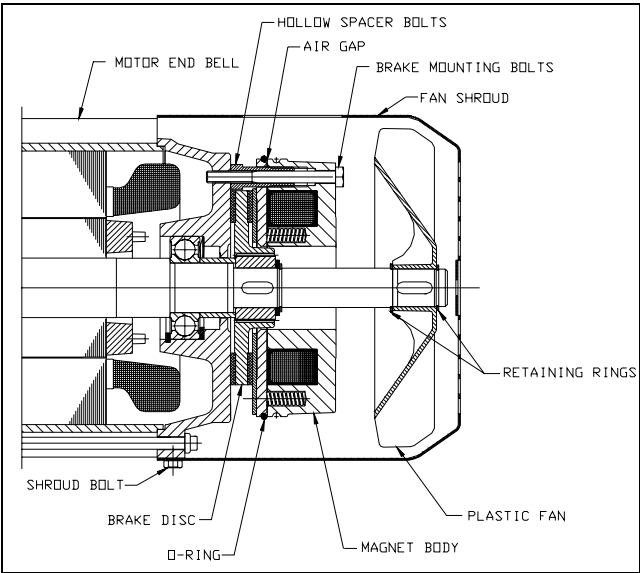

Figure 5-9. Motor Brake.
- (3) Remove the four (4) bolts attaching the fan shroud to the motor and remove the fan shroud. See Figure 5-9.
- (4) Carefully roll the large O-ring from the groove over the air gap back toward the magnet body. Do not excessively stretch this O-ring.
- (5) Measure the air gap using feeler gages. If the air gap exceeds the maximum value shown in Table 5-1, the air gap must be reset.
- (1) Lower hook block to the floor and relieve all load from ropes.
- (2) Make sure power to the hoist is off and locked out.
- (4) Remove the snap ring behind the plastic fan. Carefully remove the fan from the motor shaft. Remove the snap ring in front of where the fan was mounted.
- (5) Disconnect the two wires from the terminal block on the magnetic body.
- (6) Remove the three mounting bolts that attach the brake body to the motor end bell and remove the brake body from the motor. Remove the friction disk from the motor shaft.
- (7) Clean and inspect all components and
Refer to Figure 5-9 and proceed as outlined in Section V, Paragraph 5-10.